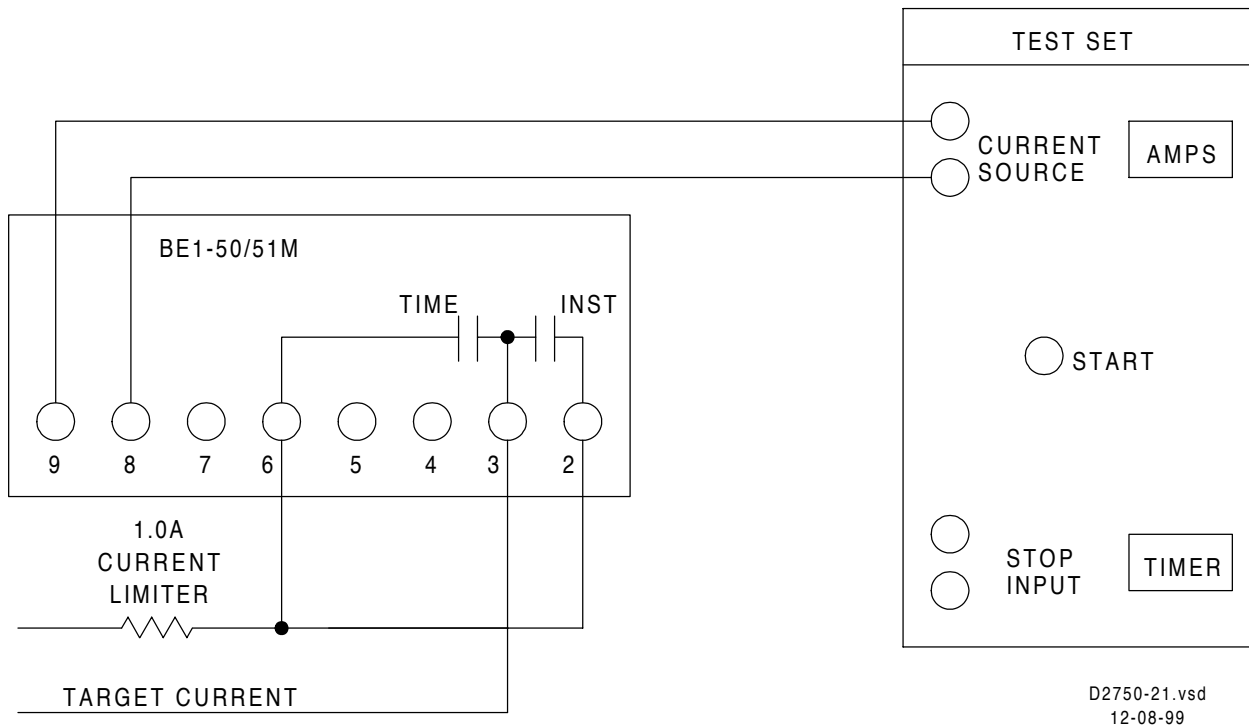

Figure 5-2. Target Operational Test Setup
- Connect test setup as shown in Figure 5-2.